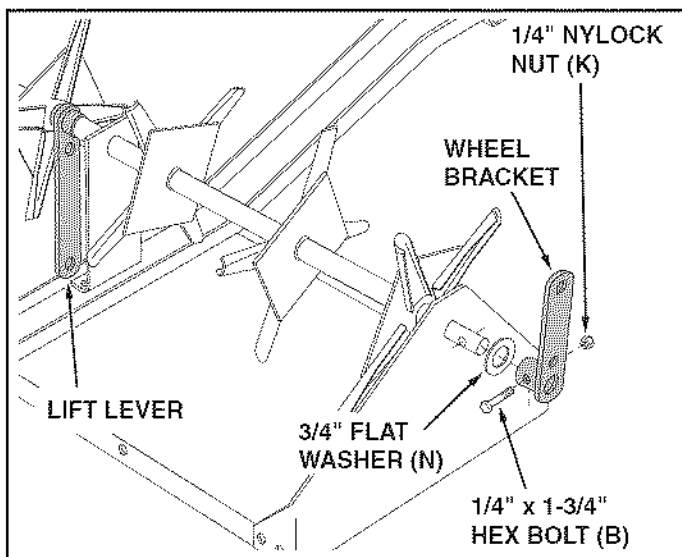

FIGURE 8
- Turn the tray upside down. Standing behind the tray, place the **long end** of the shaft through the end plate on your right as shown in figure 8. Place the other end of the shaft through the end plate on your left. Make sure the bent end of the middle brace rests flat inside the tongue.
- Assemble a 3/4" flat washer (N) and a wheel bracket onto each end of the shaft. Turn each wheel bracket to point in the opposite direction from the lift lever. Secure each wheel bracket with a 1/4" x 1-3/4" hex bolt (B) and 1/4" nylock nut (K). **Tighten.** See figure 8.